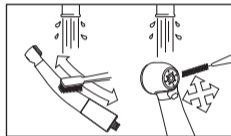

Fig. 20
- 1 Clean the external surfaces of the handpiece with a soft bristled toothbrush for 15 seconds or more (Fig. 20).
- 2 Clean around the bur insertion hole for 15 seconds or more, using an interdental brush (wire thickness 0.7mm) that conforms to size 4 in ISO 16409 (Fig. 20).